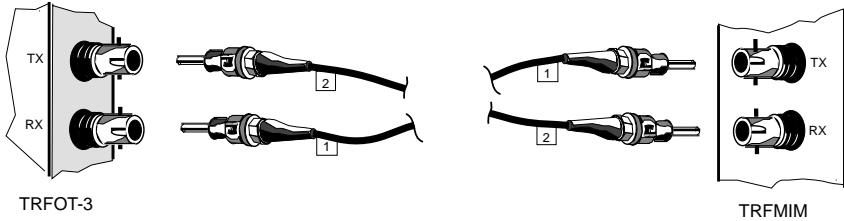

Figure 3-3. Connecting Fiber Cables
2. Attach the fiber labeled 1 to the applicable receive port, labeled **RX**, on the TRFOT-3. See Figure 3-3.